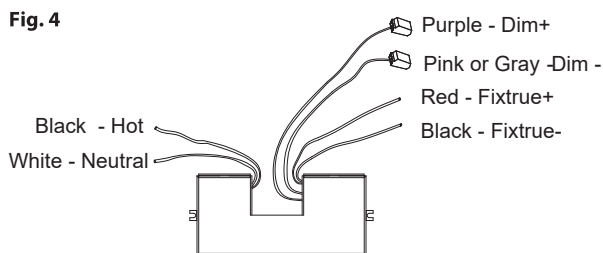

Fig. 5
6. Secure the fixture to the mounting back plate using the mounting screw (B) and rubber gasket (C).
7. To prevent moisture from entering the outlet box and causing a short circuit, use clear caulking (i.e. indoor/outdoor silicone sealant) to outline the outside of fixture back plate where it meets the wall. Leave a space at the bottom to allow moisture to escape (Fig. 5).